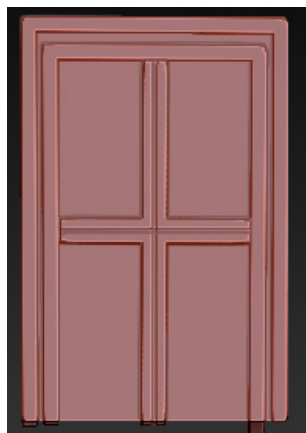

Figure 3-103 The vertical and horizontal lines created on the partitions
11. Choose the **Zsub** button from the top shelf. Next, set the value of the **Draw Size** slider to **2**. Press and hold the left mouse button, and draw vertical and horizontal lines on the partitions, as shown in Figure 3-103.